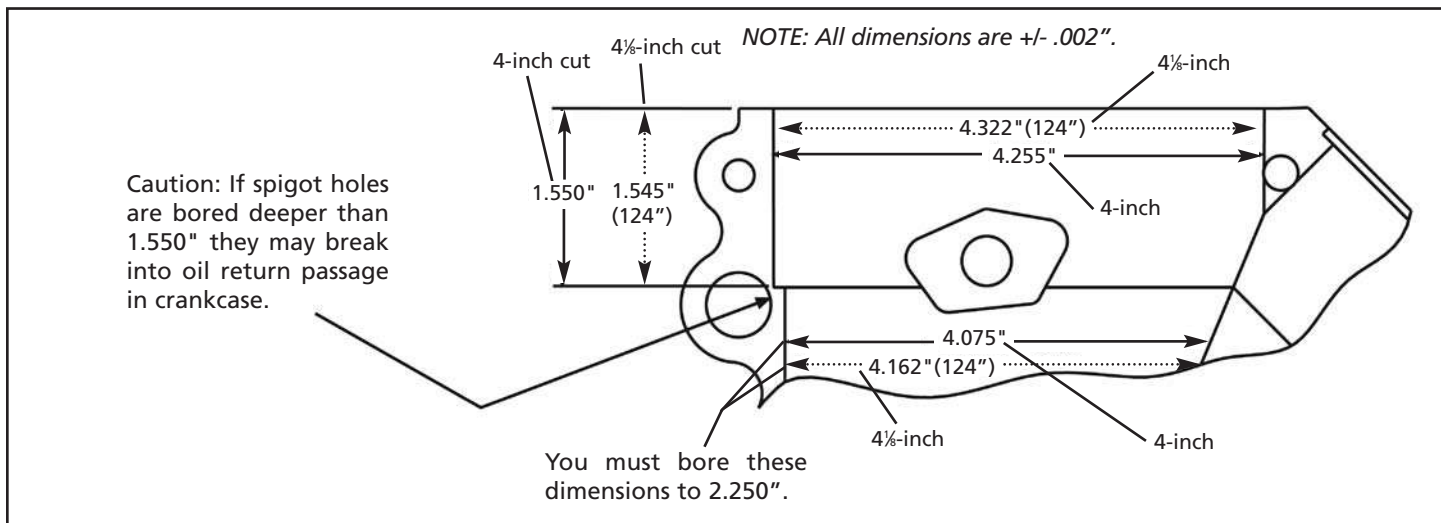

Figure 2
If cylinder spigot holes are bored deeper than 1.550" they may break into oil return passage in crankcase. See Figure 2.
- F. See Figure 2. Spigot bore depth can be measured with depth micrometer through window in boring spacer. See Picture 8.